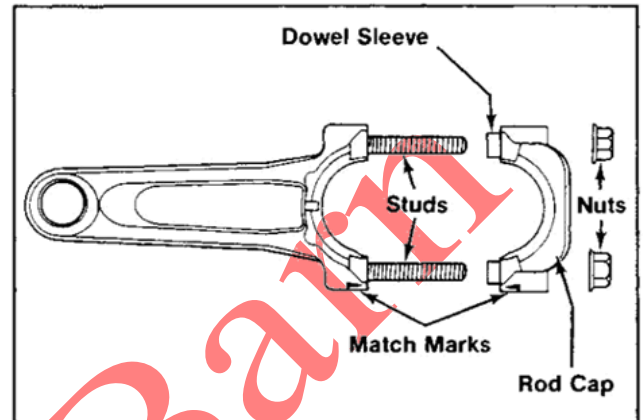

Figure 11-9. Installing Posi-Lock Connecting Rods.
2. Install the connecting rod caps. Make sure the match marks are aligned and the proper cap is reinstalled to each connecting rod. Refer to Figure 11-9.